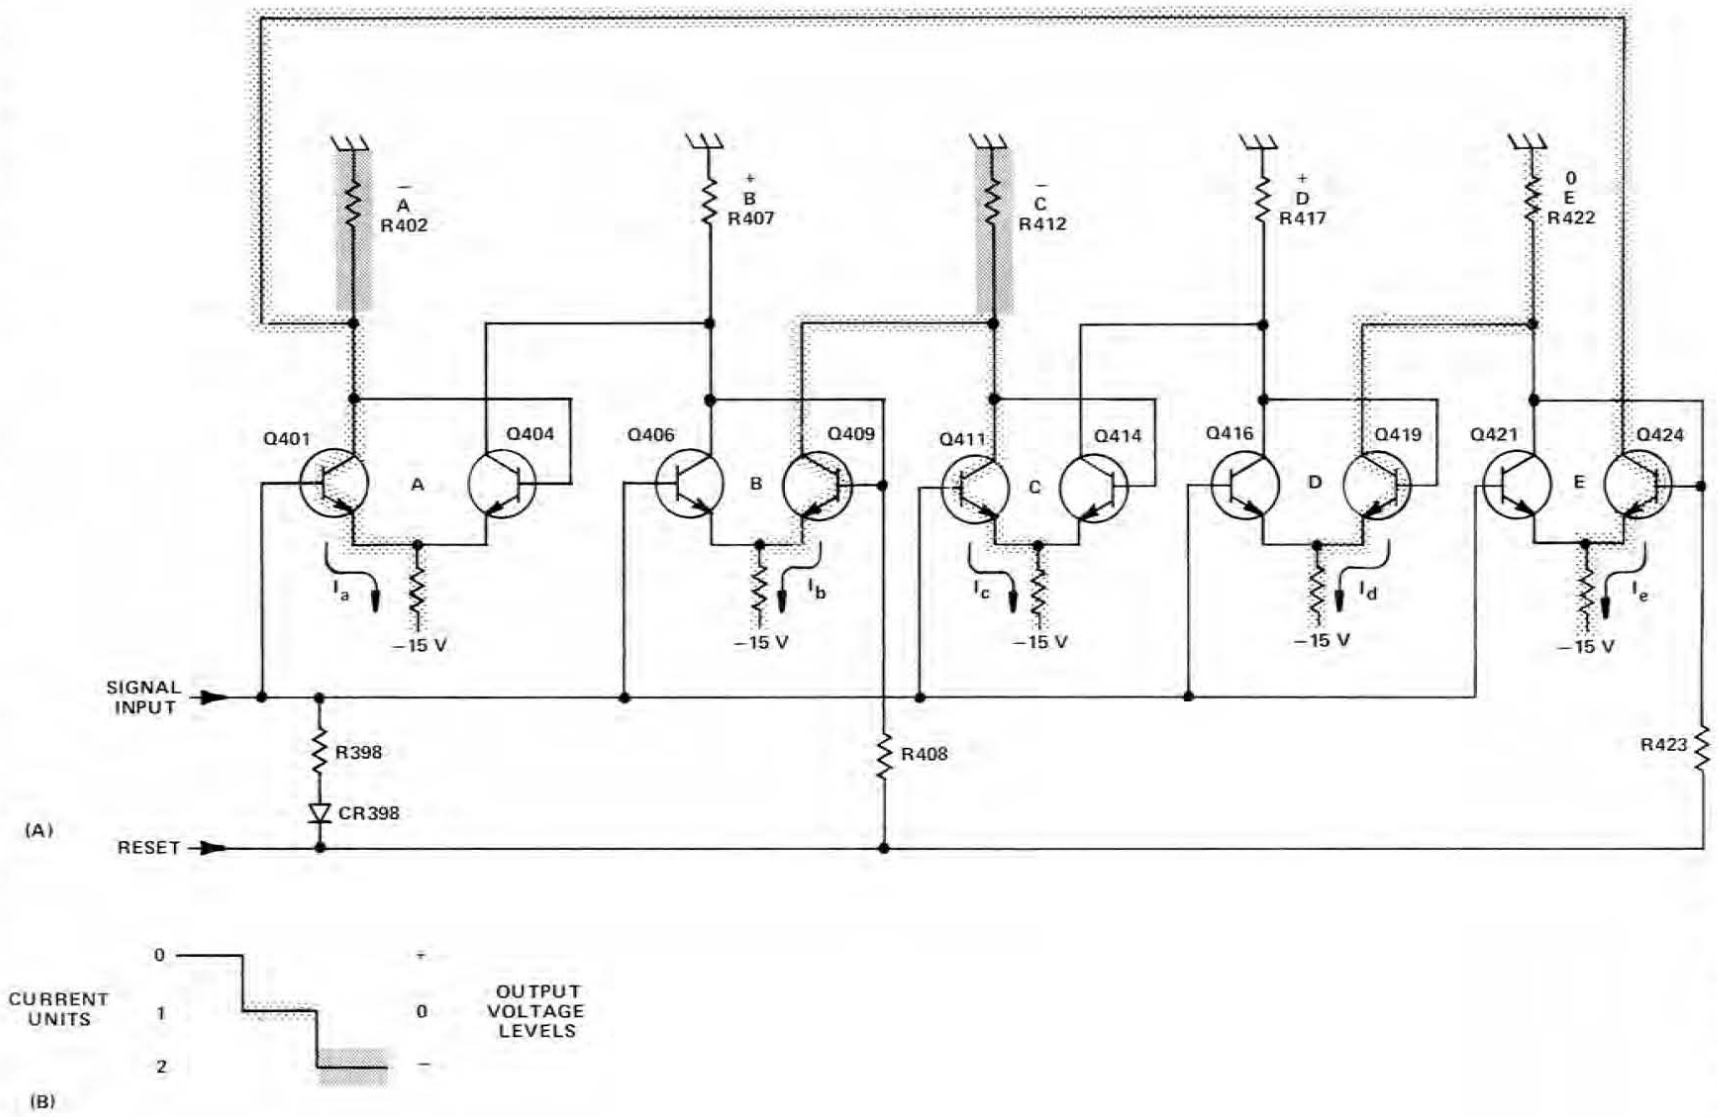

Fig. 2-4. (A) Ring Counter simplified schematic diagram; (B) Multivibrator current units/output voltage levels chart.
Gated Ring Counter. The Gated Ring Counter is made up of five DC coupled multivibrators. Each multivibrator (multi) receives the input signal, however, the ring counter configuration is such that an input will change the state of only one multi. In turn, this conditions the succeeding multi to respond to the next input, etc. A simplified diagram of the ring counter is shown in Fig. 2-4. Each multi is made up of two transistors. The multis are identified in Fig. 2-4(A) as multi A, Q401 and Q404; multi B, Q406 and
In each multi, the emitter-resistor current (e.g., I_a) will flow through the transistor which has the more positive base level. The current through a multi load resistor is determined by the state of the corresponding multi and the preceding one. Therefore, the load resistor current can be at one of three levels; and, this will result in one of three voltage levels dropped across the load resistor. For example, the voltage dropped across the load resistor B may be due to one current unit (I_a or I_b), two current units ($I_a + I_b$), or zero. The voltage levels resulting from zero, one, and two current units through a load resistor are represented in Fig. 2-4(B); and are labeled +, 0, and - respectively.
After reset, the state of each multi is shown in Fig. 2-4(A) by the direction of the arrow representing emitter-resistor current. The resultant voltage dropped across each load resistor is A, -; B, +; C, -; D, +; and E, 0. The multi output voltage is applied to the base of the right transistor through a zener diode. The zener diode provides level shifting to keep the relative voltage level between the right and left transistor bases the same. As reset is applied, the counter assumes the state shown in Fig. 2-5 labeled RESET HI and changes to the state labeled RESET LO as the reset pulse is removed.